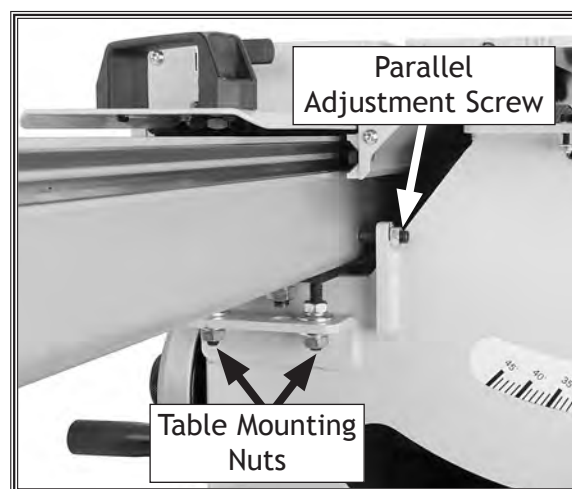

Figure 124. Table parallelism adjustment controls.
7. Loosen the sliding table mounting nuts (see **Figure 124**) at both mounting locations.
9. Slowly rotate the parallel adjustment screw (**Figure 124**) as necessary to move the table. If you move the adjustment screw away from the table, then push the table against the screw before proceeding.